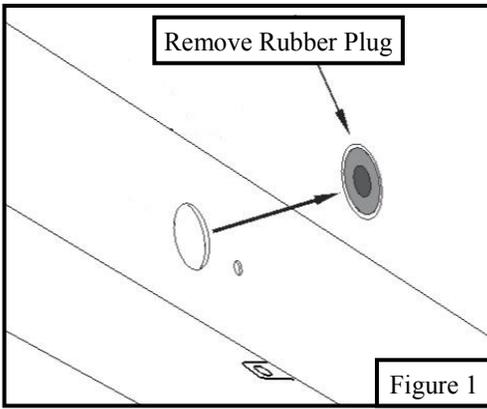
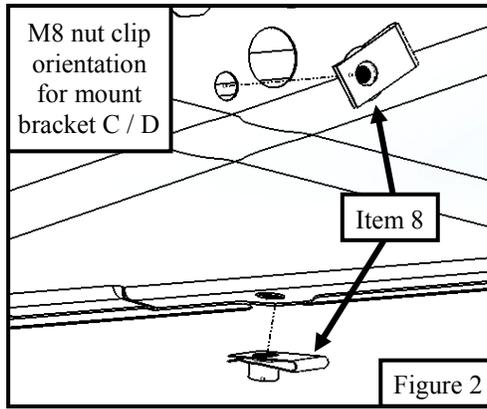
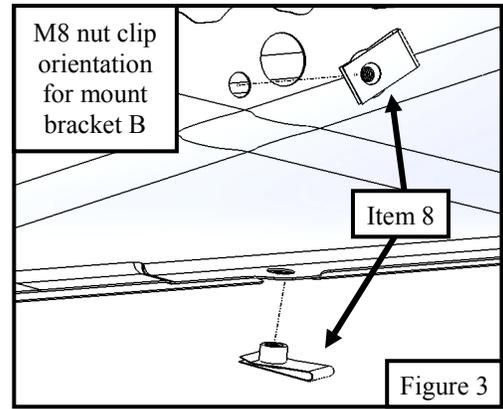

Figure 1
Figure 2
Figure 3
- Locate on each rocker panel the black rubber plugs and remove them. See **Figure 1**. Install the M8 nut clips (Item 8) as shown in **Figure 3** for bracket B (Item 2). For the bracket C (Item 3) and bracket D (Item 4) mount location, install M8 clip as shown in **Figure 2**.